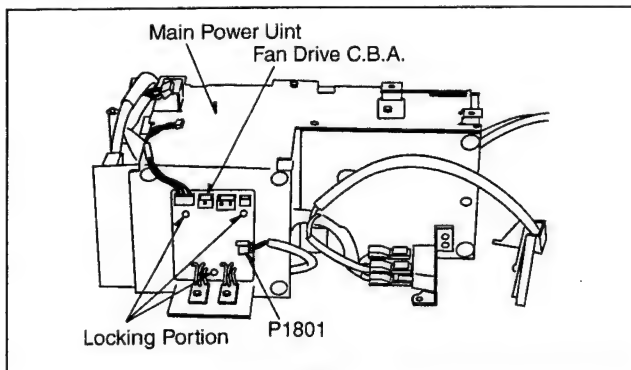

Fig. P2
1. Disconnect connector P1801 as shown in Fig.P2.